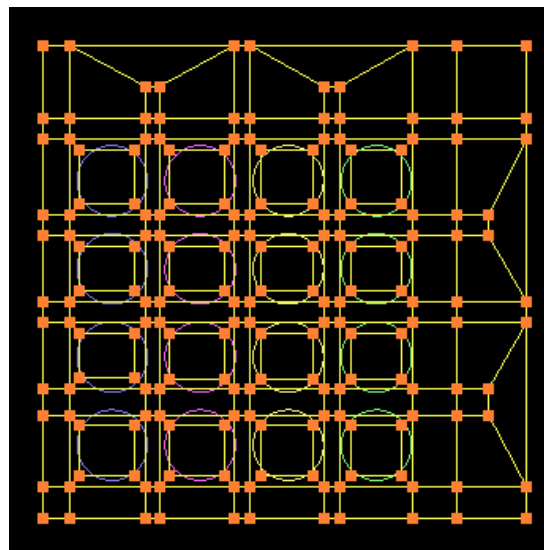

Figure 32.3
- Link the corners together as shown in figure 32.3.